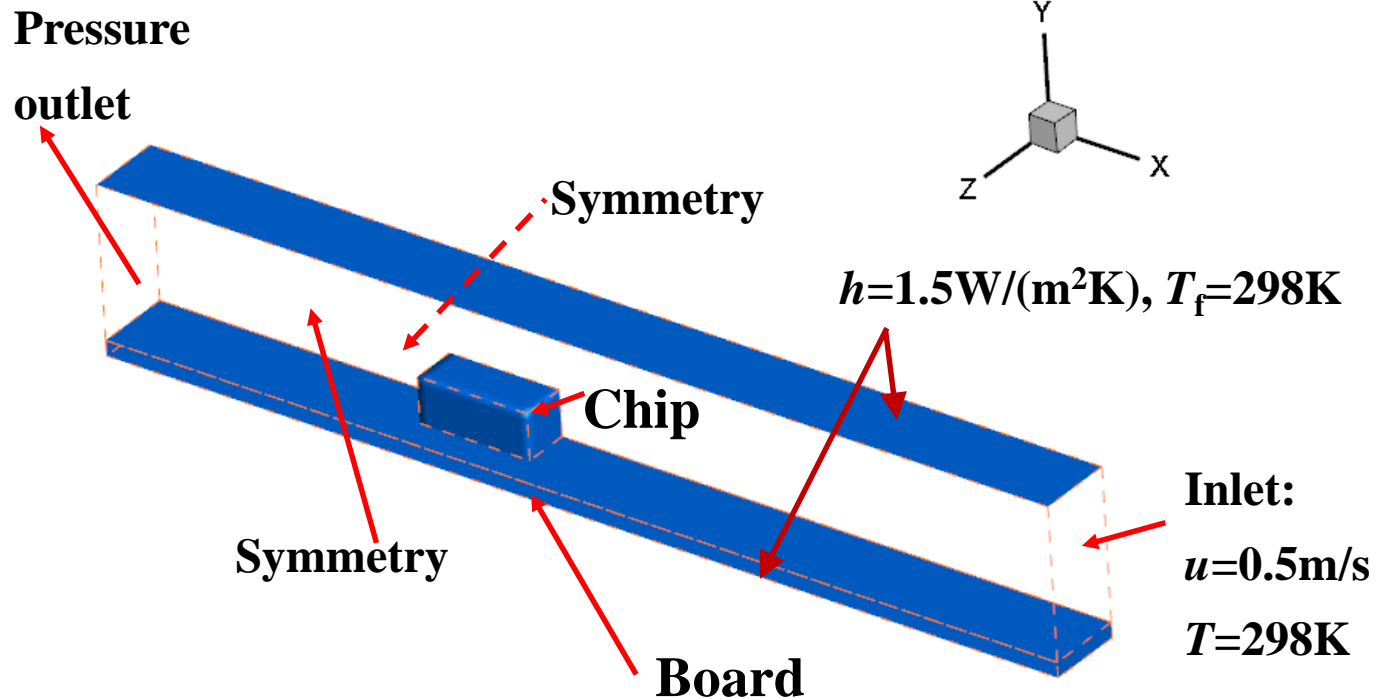

Fig.1 Computational domain
**Known:** Steady laminar flow and convective heat transfer around a board on top of which is a chip with source term. The domain and size is shown in **Fig. 1**. The boundary conditions are as follows: